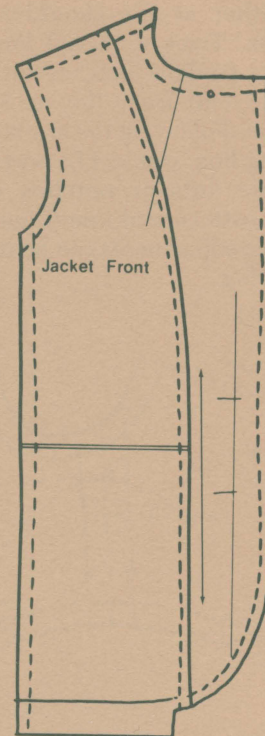

Figure 28. Adapt the pattern front for lining. Lining cutting line.
- Place the front facing pattern piece under your bodice front pattern piece, matching front edges (Figure 28).